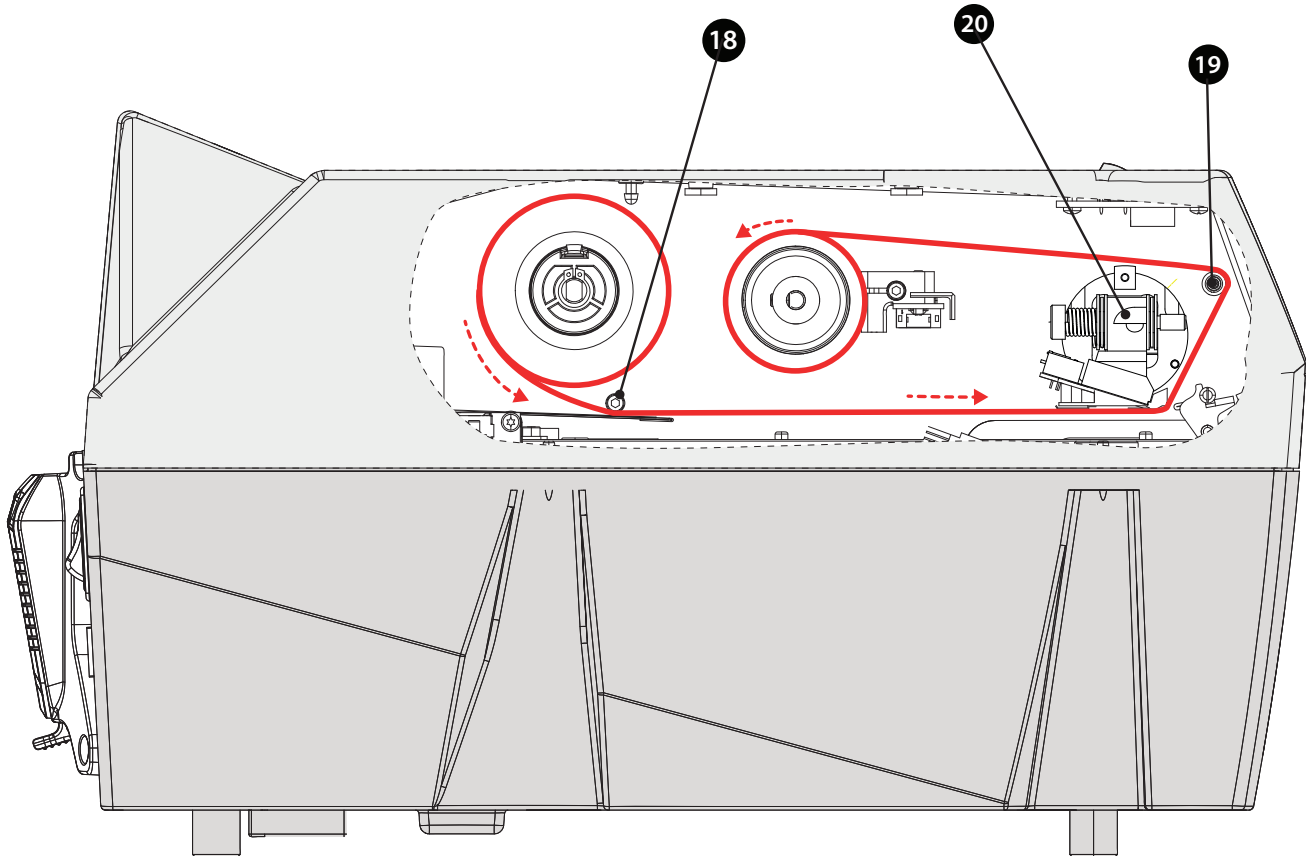

Fig. 9 Print ribbon path
- ▶ Unroll the ribbon by passing it under the rear guide (18) (Fig. 9) and then under the print head (20) until it comes out on the opposite side (Fig. 9d).
- ▶ Pull the ribbon further so that it passes over the front guide (19) (Fig. 9).
- ▶ Tape the end of the print ribbon to the cardboard core of the spindle (13). We recommend that you wind the print ribbon tightly around the cardboard core for a few turns in order to achieve correct take-up.